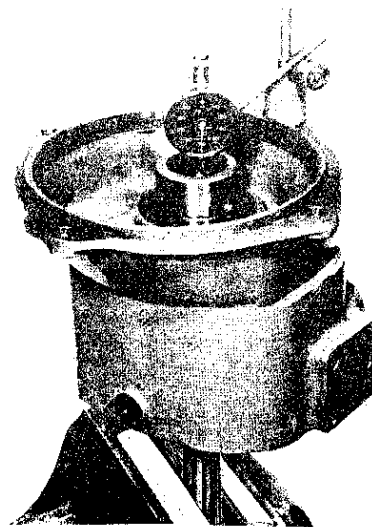

Fig. 15
3. Turn the front housing so that it stands on the connection flange, and then fit the engaging sleeve (31) on the shaft (36). Note! The drilling in one end of the engaging sleeve must face away from the front housing.
4. Place the needle bearings (37 and 39) as well as the spacer ring (38) on the shaft (36).
5. Place a new gasket (3) on the end of the front housing. Note! The holes for the guide pin (50) in the gasket must be opposite the pins.
7. Assemble the intermediate housing and front housing. Turn the intermediate gear shafts (51) with a screwdriver so that the lock pins (50) enter the grooves in the shaft ends.
8. Press the pin (42) into the shaft (36).
9. Fit the brass washer (40) on the shaft. The washer groove must be opposite the pin (42).
10. Secure the brass washer with the circlip (41). Note! Use a new circlip. This operation is made easier if the shaft is lifted upwards.
12. Screw tight the four bolts (2) together with their washers.
13. Tighten the bolt (10) to a torque of 100 Nm (72 lbf ft). Measure the axial clearance for the shaft assembly (see Fig. 15). This clearance should be 0.2-0.3 mm (0.008-0.012"). Increase or decrease the number of shims until the correct clearance is obtained. Shims are available in two thicknesses: 0.1 and 0.5 mm (0.004 and 0.020").
14. Fit the O-ring (11) on the sleeve (31). Apply a little grease to the O-ring and press the sleeve into the gear wheel. Observe due care so as not to damage the O-ring.
15. Secure the sleeve with the circlip (6).
3. Turn the front housing so that it stands on the connection flange. Then fit the engaging sleeve (36) on the shaft (42). Note! The drilling in one of the engaging sleeve ends must face away from the front housing.
4. Place the needle bearings (43 and 45) as well as the spacer ring (44) on the shaft (42).
5. Place a new gasket (3) on the front housing end. Note! The holes for the guide pins (55) in the gasket must be opposite the pins.
7. Assemble the intermediate housing and front housing. Turn the intermediate gear shafts (56) with a screwdriver so that the lock pins (55) enter the grooves on the shaft ends.
8. Press the pin (57) into the shaft (42).
9. Fit the brass washer (46) and the steel washer (47) on the shaft. The groove on the washers must be opposite the pin (57).
10. Secure the brass washer and steel washer with the circlip (48) NOTE! Use a new circlip. This operation is made easier if the shaft is raised.
13. Tighten the screw (11). The tightening torque is 100 Nm (10 kpm = 72 lbftf). Measure the axial clearance in the shaft assembly (see Fig. 15). The clearance should be 0.2–0.3 mm (0.008–0.012"). Increase or decrease the number of shims until correct clearance is obtained. Shims are available in two thicknesses: 0.1 and 0.5 mm (0.004 and 0.02").
14. Place the O-ring (12) on the sleeve (10). Apply a little grease to the O-ring and press the sleeve into the gear wheel. Take care not to damage the O-ring.